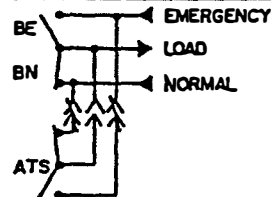

FIG. 3 BP IS BYPASS NORMAL WITH ATS IN TEST LOCATION (ATS LOAD CONNECTION IS OPEN)
4. Test Switch (TS) on bottom cabinet door will allow electrical testing of ATS. (Fig. 3).